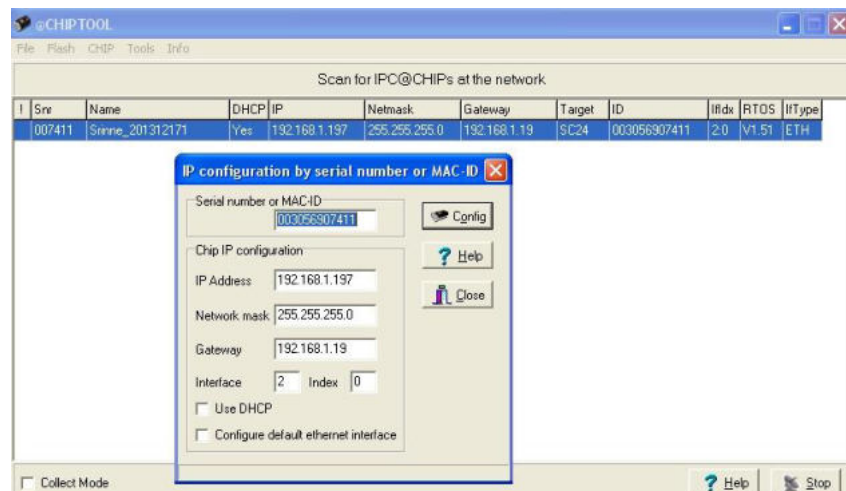

Figure 12: Device configuration for a direct connection to the computer on the program „Chiptool“.
- Highlight the entry and right-click on it. In the window select „IP Configuration“. An input window appears (fig. 12).